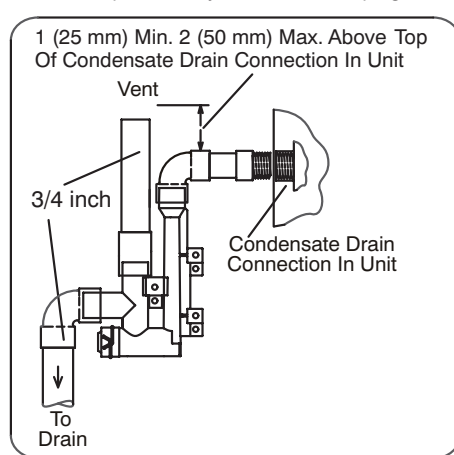

FIGURE 39
Install the cap over the clean out opening at the base of the trap. Secure with clamp. See FIGURE 39.
- 3 - Install drain trap using appropriate PVC fittings, glue all joints. Glue the provided drain trap as shown in FIGURE 39. Route the condensate line to an open drain.